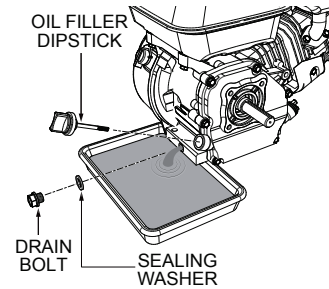

Figure 29. Engine Oil (Draining)
1. Drain the engine oil when the oil is warm as shown in Figure 29.